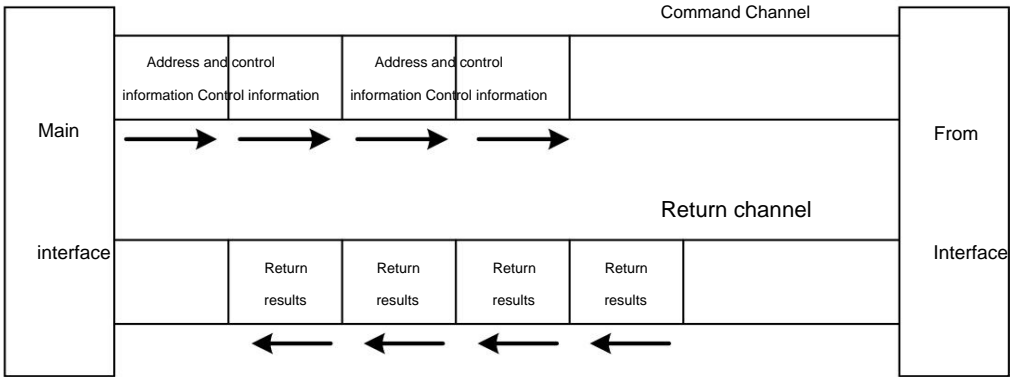

Figure 1-5 ICB bus diagram
- Compared with AXI and AHB, ICB's protocol control is simpler, with only two independent channels, as shown in Figure 1-5. Read and write operations share the address channel and the result return channel.